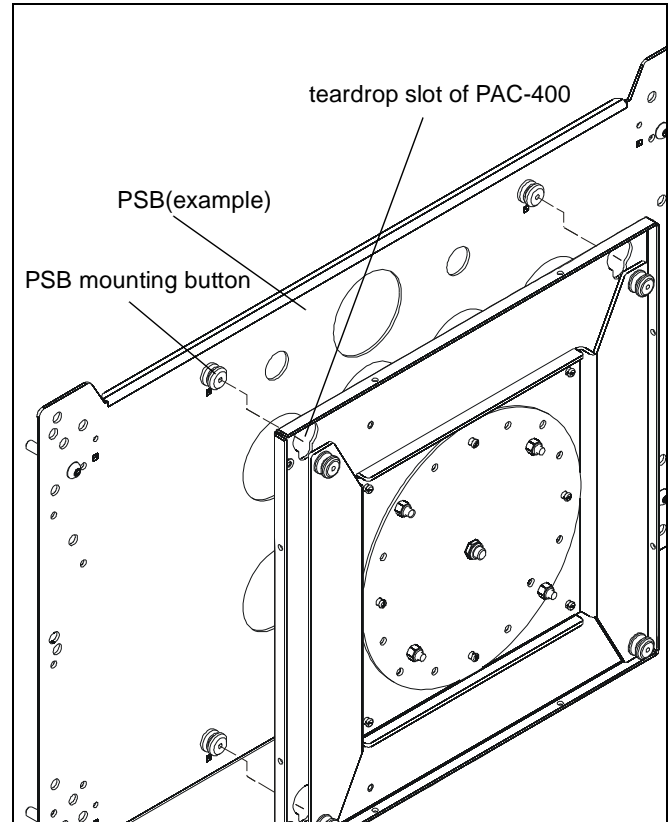

Figure 2
2. Attach mounting buttons to rotation assembly, making sure the buttons are securely fastened. (See Figure 2)
3. Attach to PSB interface bracket by placing the mounting buttons of PSB into the teardrop slots of PAC-400. Make sure the mounting buttons are placed securely in teardrop slots. (See Figure 2)